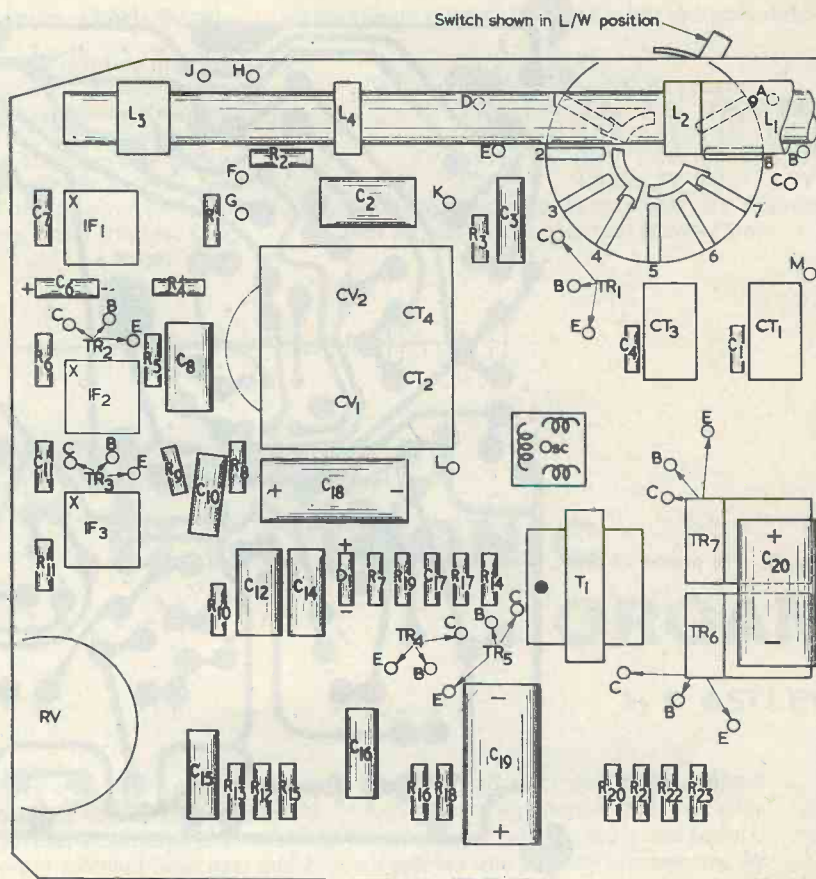

Fig. 2. Showing the layout of the components on the printed circuit board
The wafer can then be passed over the shaft and soldered into position. The volume control can be soldered into position as shown in Fig. 2. Tag 3 of the wavechange switch should be left unsoldered.
9. The aerial rod should now be mounted in its brackets and the coils fitted as shown in Fig. 2. L₁ and L₂ are fitted together; L₃ has three tags, and L₄ is a single pile wound coil with two connections. Connect these coils as follows: L₁ start to point "F", finish to point "A". L₂ start to point "F", finish to point "C". (L₁ and L₂ start together. L₂ is the shorter of the two coils and ends after approximately six turns. L₁ ends at the extreme end of the former.) L₃, tag 1 to point "G", tag 2 to point "K", tag 3 to point "J". (With the tags facing the constructor, L₃ tags are numbered clockwise from the gap—1, 2 and 3.) L₄ start to point "H", finish to point "D". (The start of L₄ is that of the inner wire and the end is the outer wire.)